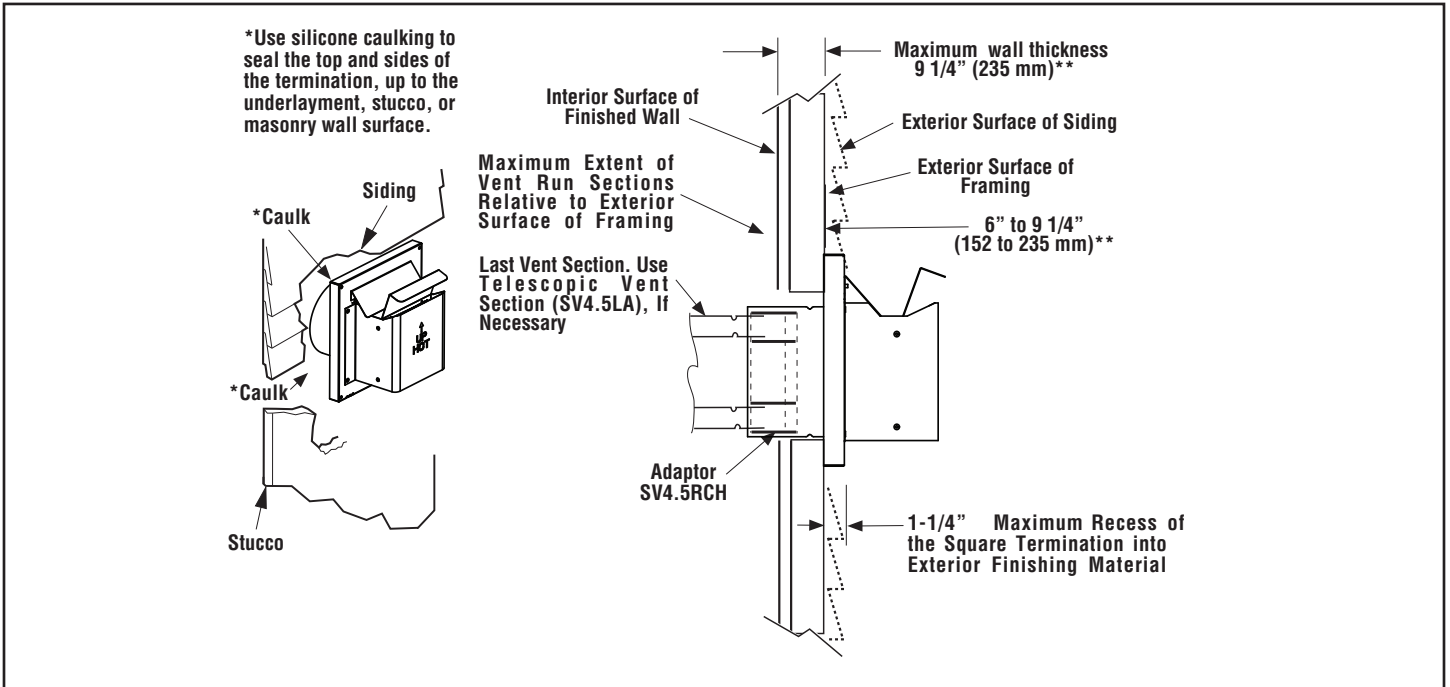

Figure 10 - Venting Connection and Exterior Wall Recessing of the Horizontal Compact Termination (SV4.5HTKCT)
- 13. Install the termination (SV4.5HTKCT)—** From outside the exterior wall, slide the collars of the termination onto the adaptor (the outer over the outer and the inner inside the inner) until the termination seats against the exterior wall surface to which it will be attached. Orient the housing of the termination with the arrow pointed upwards. Secure the termination to the exterior wall. The horizontal termination must not be recessed into the exterior wall or siding by more than the 1 1/4" (32 mm) (Figure 10, page 16).